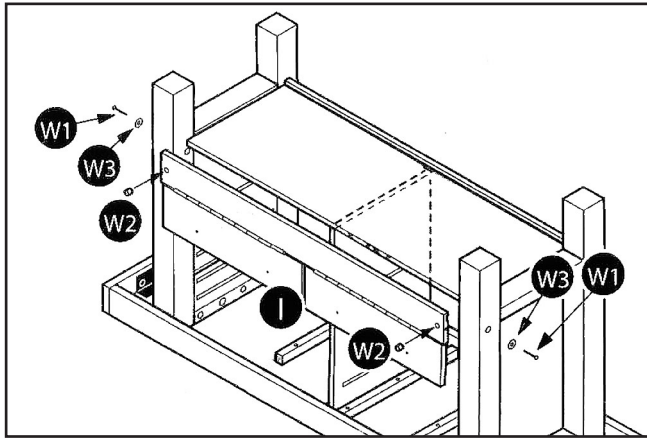

Figure 7. Front cross brace installation.
- Insert two (W2) barrel nuts into the front cross brace "I", so the barrel nuts slots are horizontal and facing toward the inside of the workbench (Figure 7).
- Using the 5mm hex wrench, secure the front brace and legs together with two (W1) barrel bolts and two (W3) washers (Figure 7).